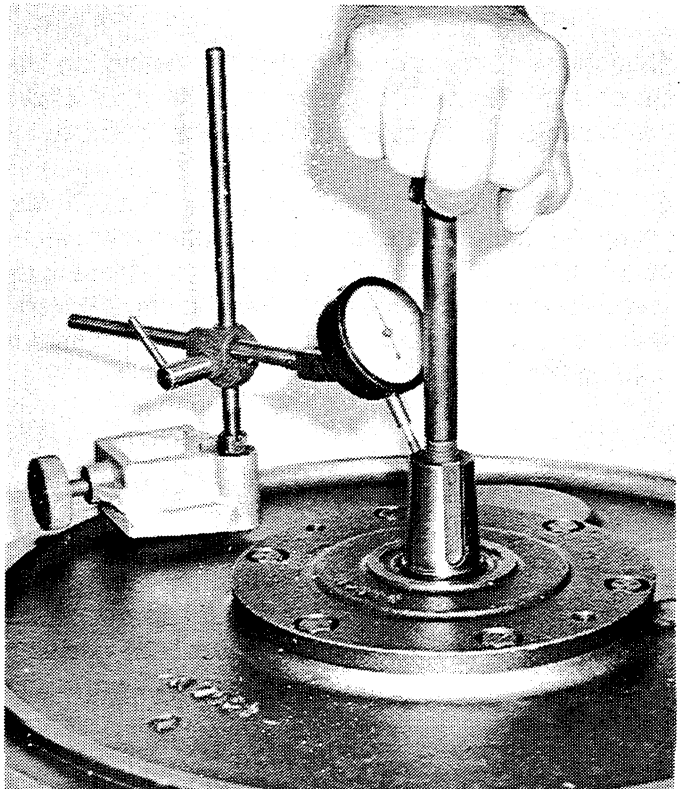

Figure 9-8. Applying Pushing Force While Dial Indicating End Play of Input Shaft.
4. Install an eyebolt into the front of the input shaft and apply 60-100 lbs. downward pressure while rotating the input shaft several revolutions in each direction. See Figure 9-8.